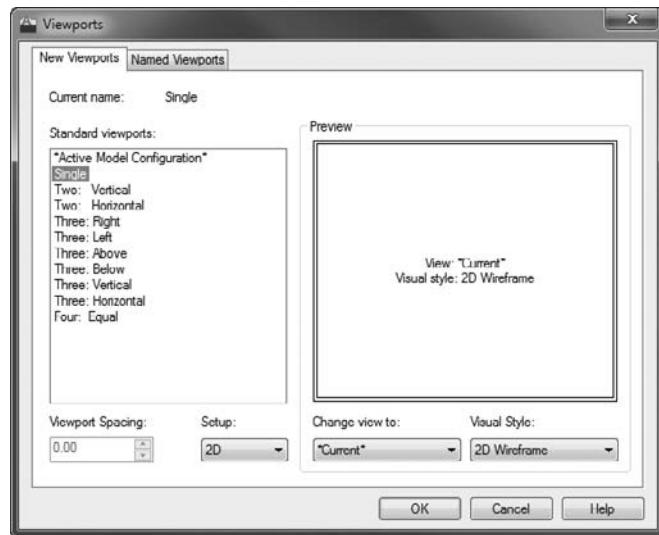

FIGURE 14.49 The Viewports dialog box
4. In the Viewports dialog box that opens, click the New Viewports tab and then, in the Standard Viewports window, select Single (see Figure 14.49) and click OK.